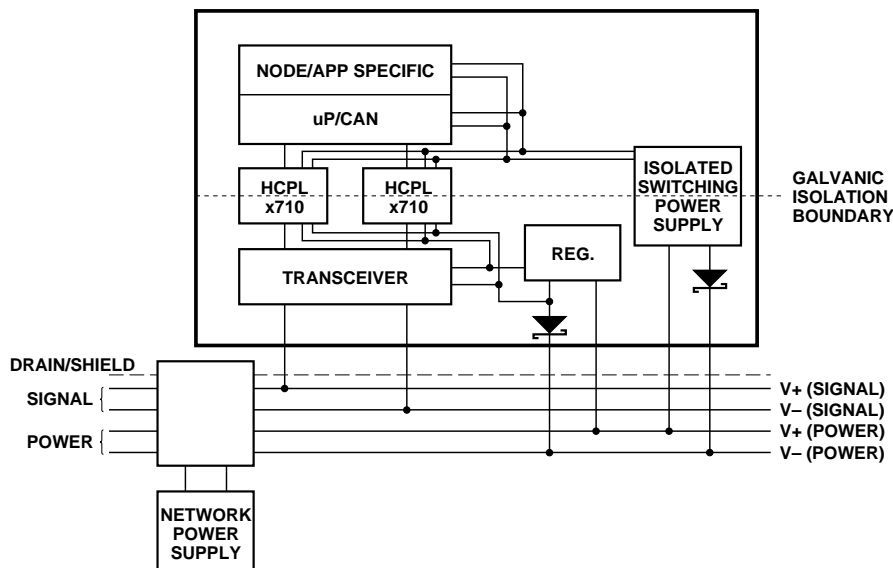
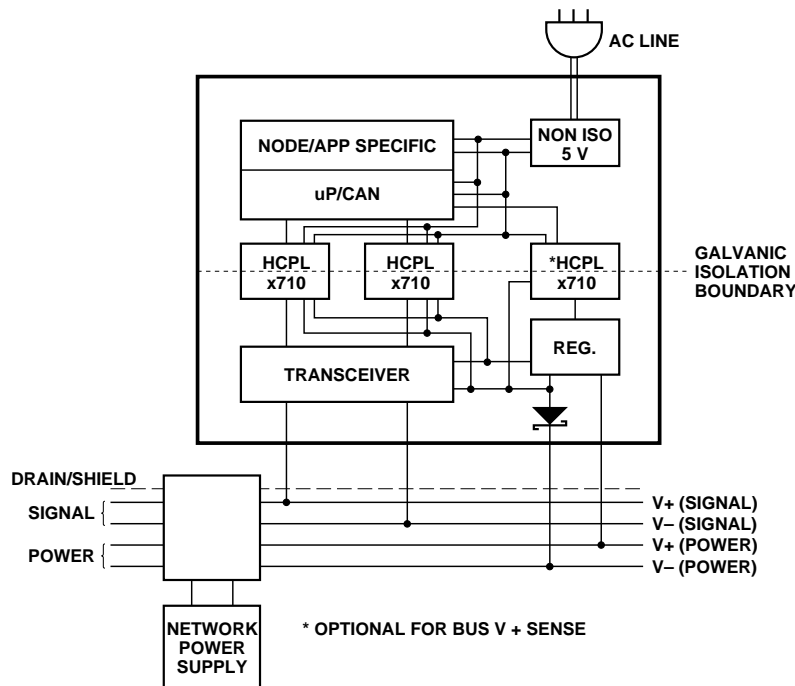
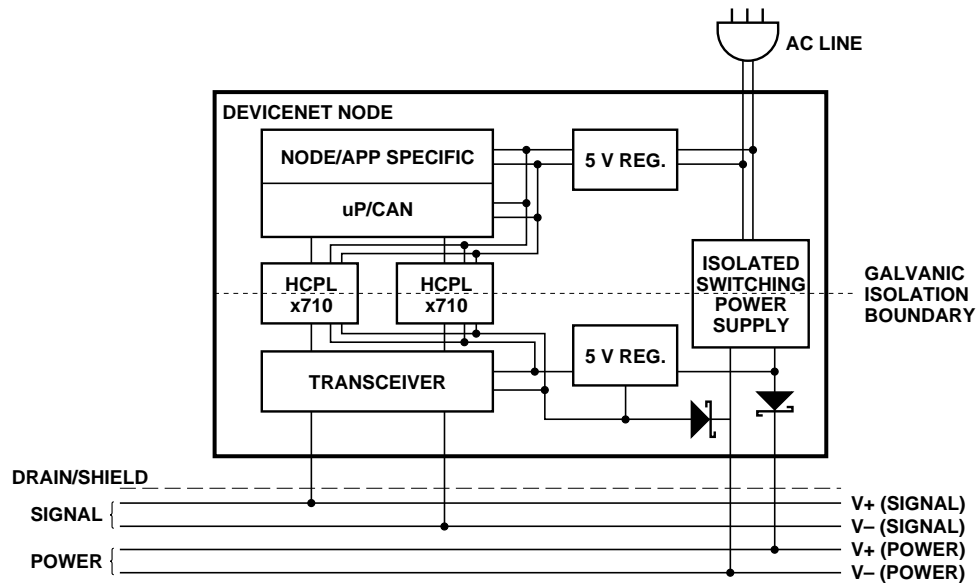

Figure 19. Isolated Node Powered by the Network.
Figure 20. Isolated Node with Transceiver Powered by the Network.
Figure 21. Isolated Node Providing Power to the Network.
by the Network (Figure 19), Isolated Node with Transceiver Powered by the Network (Figure 20), and Isolated Node Providing Power to the Network (Figure 21).
This type of node is very flexible and as can be seen in Figure 19, is regarded as “isolated” because not all of its components have the
Figure 20 shows a node powered by both the network and another source. In this case, the transceiver and isolated (network) side of the two optocouplers are powered by the network. The rest of the node is powered by the AC line which is very beneficial when an application requires a significant amount of power. This method is also desirable as it does not heavily load the network.
It is suggested that the Bus V+ sense block shown in Figure 20 be implemented. A locally powered node with an un-powered isolated Physical Layer will accumulate errors and become bus-off if it attempts to transmit. The Bus V+ sense
Figure 21 shows a node providing power to the network. The AC line powers a regulator which provides five (5) volts locally. The AC line also powers a 24 volt isolated supply, which powers the network, and another five-volt